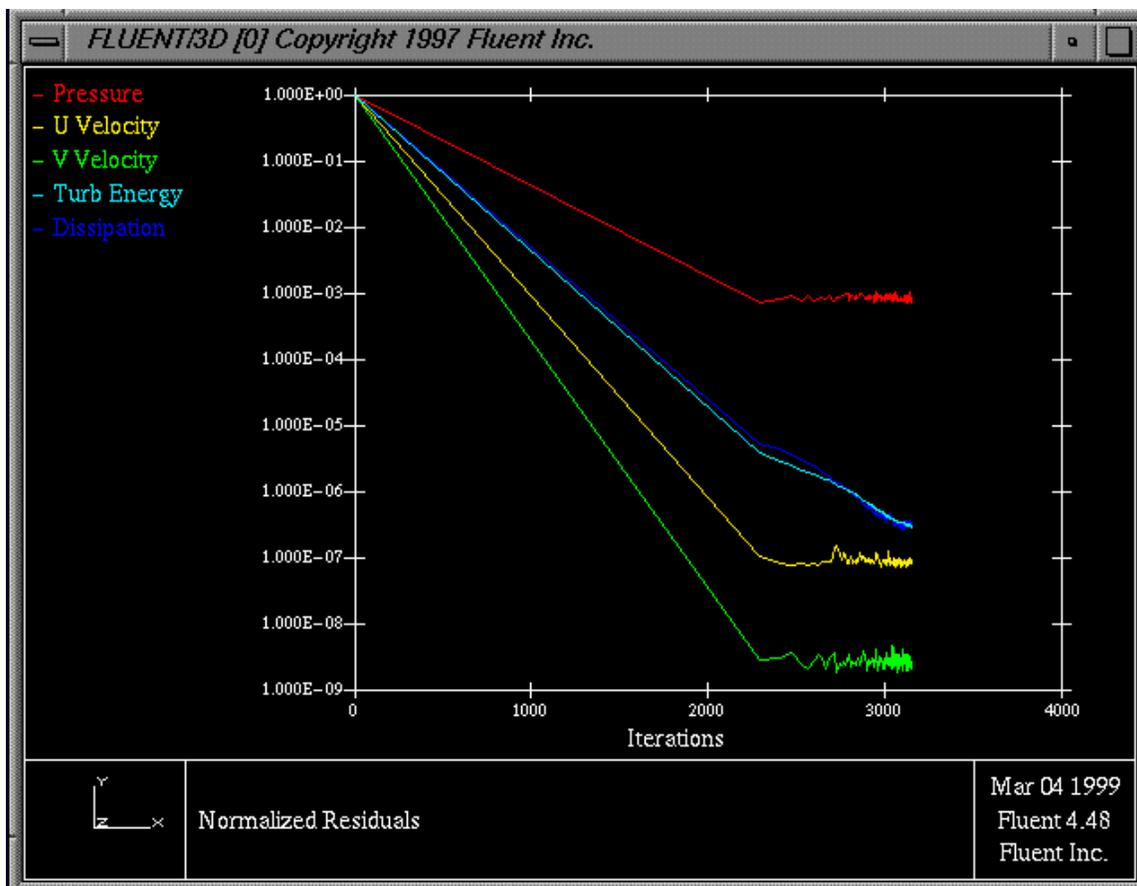

Figure 3: Plot of residuals after 3200 iterations
- Save plot of residuals (as shown in figure 3)